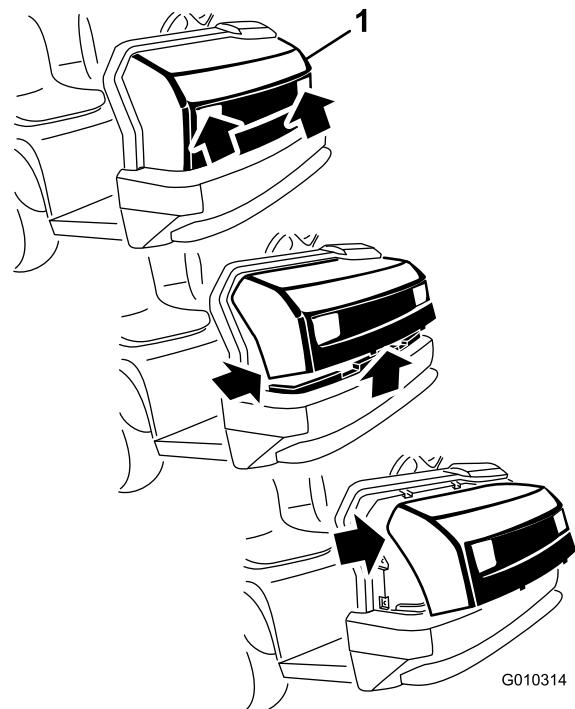

Figure 25
1. While grasping the hood in the headlight openings, lift up the hood to release the lower mounting tabs from the frame slots (Figure 25).
2. Pivot the bottom of the hood upward until you can pull the top mounting tabs from the frame slots (Figure 25).
- Pivot the top of the hood forward and unplug the wire connectors from the headlights (Figure 25).
- Insert the top mounting tabs into the frame slots (Figure 25).
- Insert the lower mounting tabs into the frame slots (Figure 25).